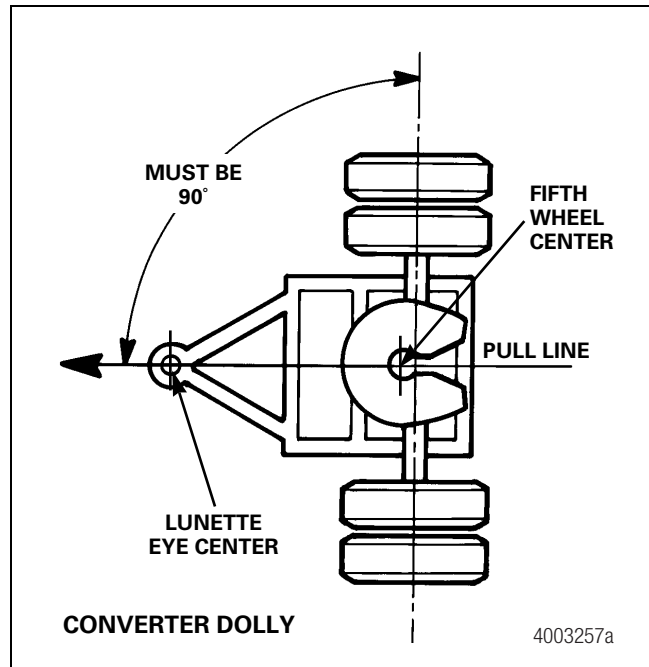
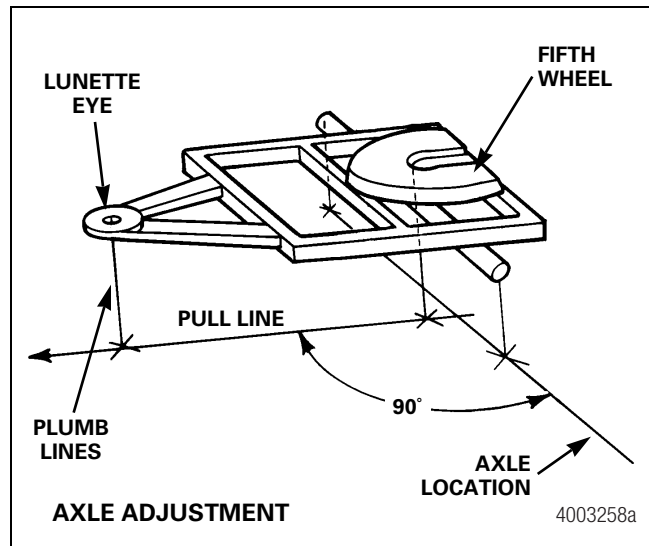

Figure 8.13
Figure 8.14
6. Hang plumb lines from the exact centers of the lunette eye and fifth wheel where it holds the trailer kingpin. Establish the pull line by marking these points on the floor and snapping a chalk line through them. Figure 8.13 and Figure 8.14.
7. Hang plumb lines from the exact centers of the roadside and curbside front axle spindles. Establish the axle location by marking these points on the floor and snapping a chalk line through them. Figure 8.14.
8. Use a large carpenter's square to measure the angle where the chalk lines cross. Adjust the axle, if necessary, until this angle is 90 degrees. Figure 8.14.